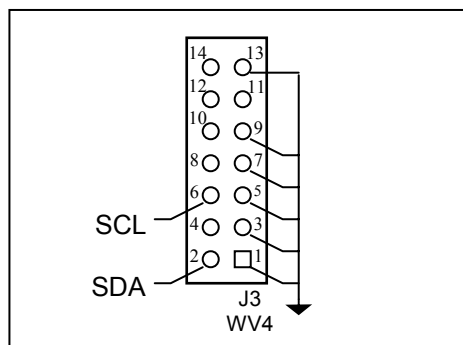

Figure 2: J3 (WV4) Interface Header
5. Connect the I²C master device to Serial Interface Header J3 (WV4). Refer to *Figure 2* below for connection details. **NOTE:** The board comes with pull-up resistors (R6 and R7). Any other pull-ups on the I²C bus must be disabled.